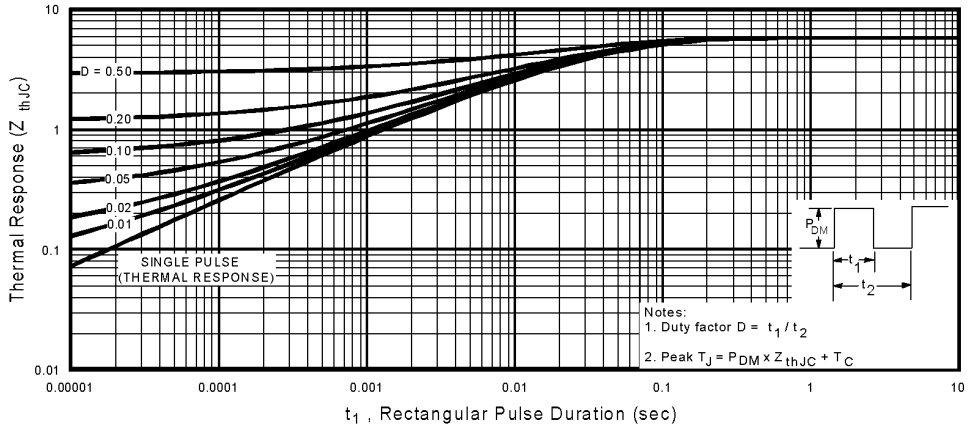

Fig 11. Maximum Effective Transient Thermal Impedance, Junction-to-Case
- ① Repetitive rating; pulse width limited by max. junction temperature. (See fig. 11)
- ② $V_{DD} = 25V$, starting $T_J = 25^\circ\text{C}$, $L = 790\mu\text{H}$